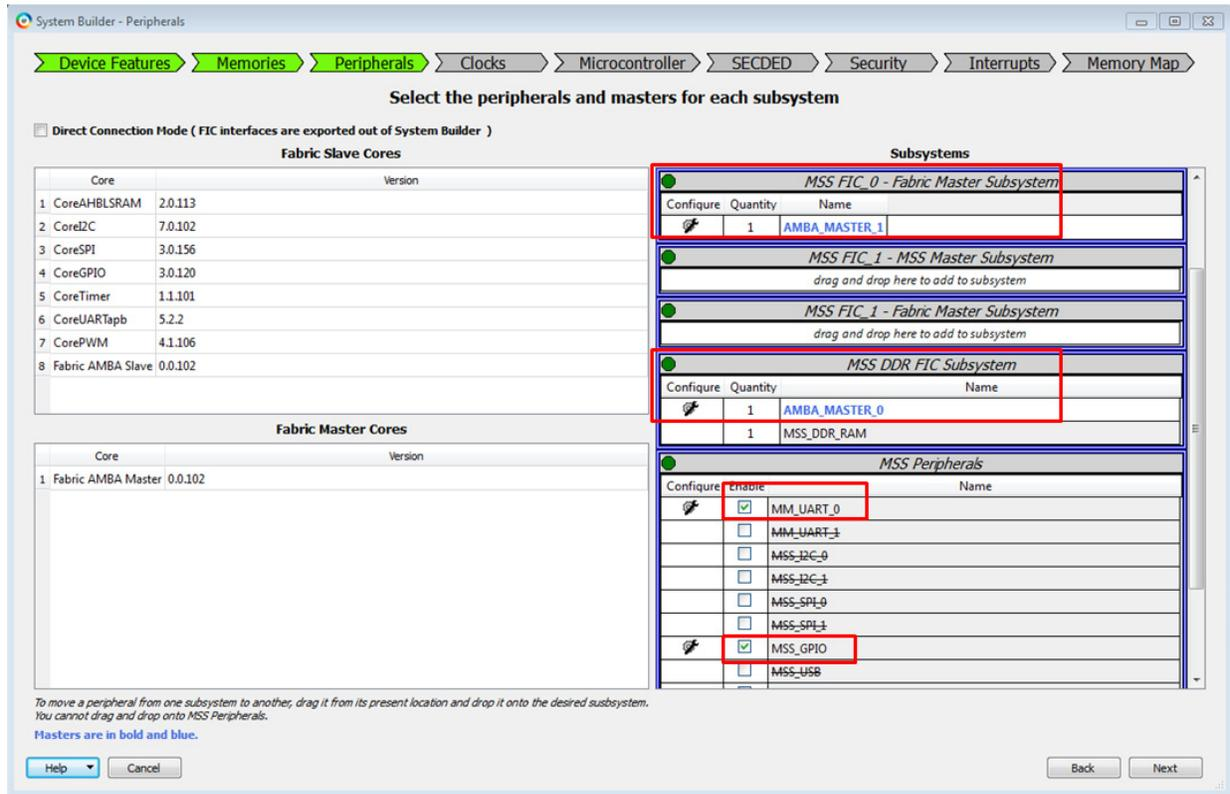

Figure 10 • Selecting MMUART\_0 and MSS GPIO in Peripherals Tab
- In the Peripherals tab, drag **Fabric AMBA Master** to **MSS DDR FIC Subsystem**, as shown in Figure 10. **AMBA\_MASTER\_0** is added to the subsystem. Configure the Interface Type as **AXI**. Figure 10 shows the Peripherals tab.